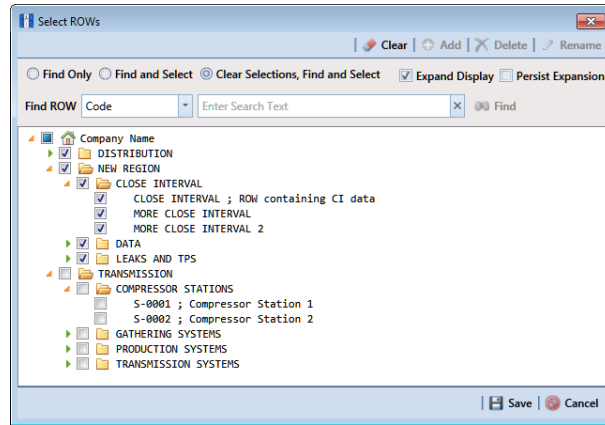

Figure 7-38. Select ROWs
- 1 Select one or more pipeline segments in the *Select ROWs* window (Figure 7-38). Select pipeline segments with facilities in a route, then click  **Save** to close the window.